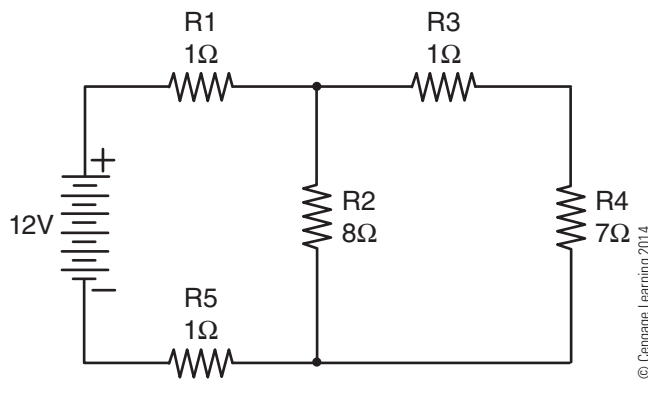

Figure 2-59
14. Find the following shown in **Figure 2-59**: